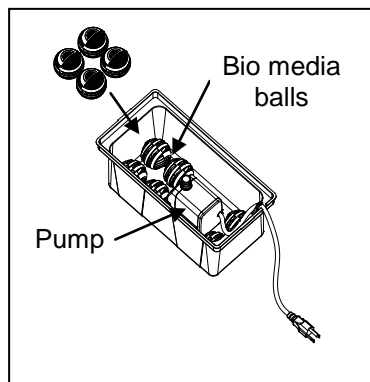

Fig. 2
2. Place the bio media balls around the pump. Fig. 2